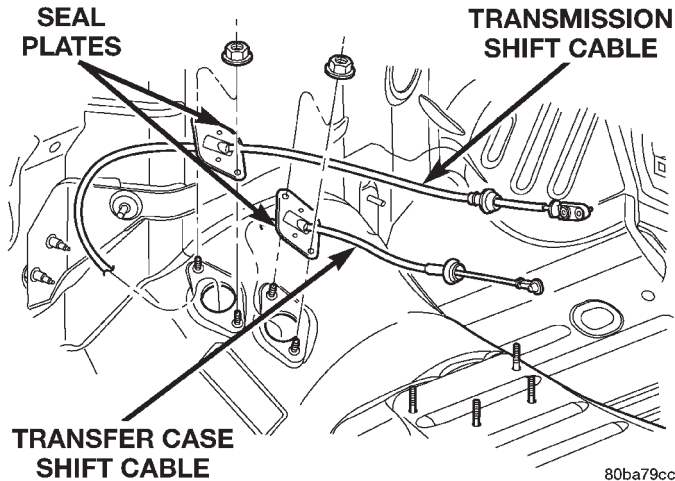

Fig. 27 Shift Cables at Floor Pan
- (8) Remove the nuts holding the shift cable seal plate to the floor pan (Fig. 27).
- (9) Pull cable through floor panel opening.